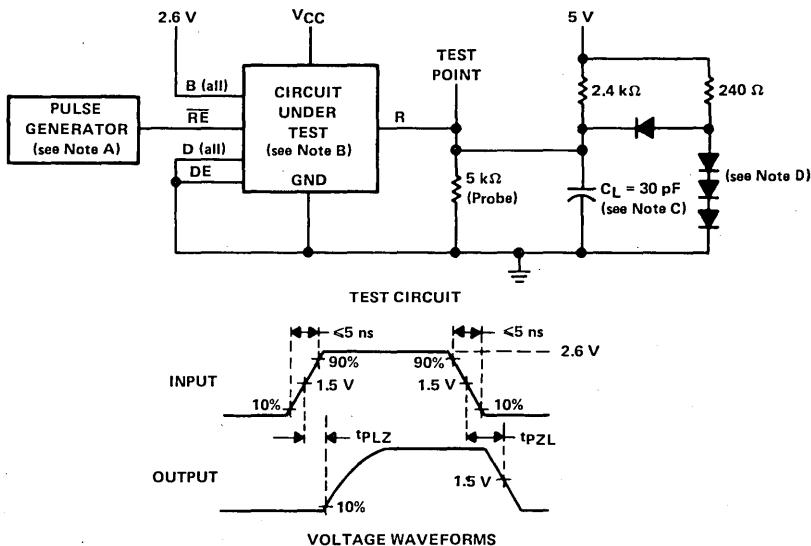

FIGURE 3. RECEIVER ENABLE AND DISABLE TIMES
- NOTES: A. The pulse generator in Figures 3 and 4 has the following characteristics: PRR  $\leq$  5 MHz, duty cycle = 50%,  $Z_{out} \approx 50 \Omega$ .